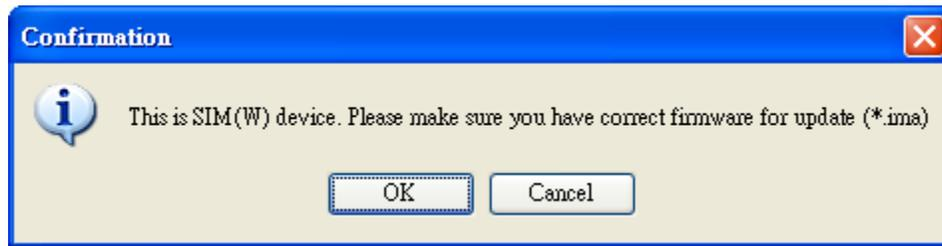

Figure D-1 SIM(W) Firmware Re-flash
To re-flash SIM(W) Firmware, please select an SIM(W) device and <Update firmware> in the menu. Then, click <OK>. A dialog box will display as shown in Figure D-1.